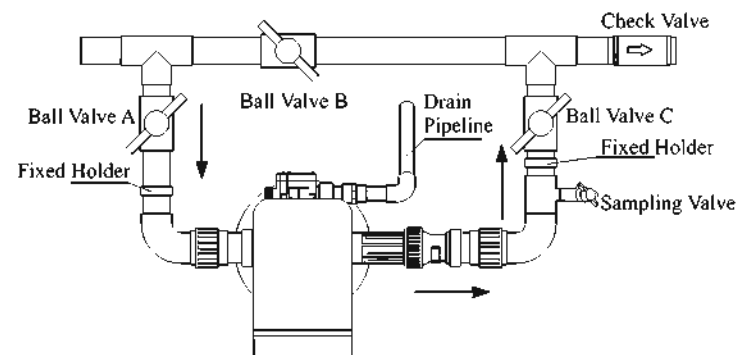

Figure 1-3
④ Pipeline connection
a. As figure 1-3 shows, install ball valve A, B, C, sampling valve, check valve in inlet, outlet, inlet pipeline and outlet pipeline.
As figure 1-3 shows, glue the drain outlet with UPVC drain pipeline, put drain outlet pipe to sewer as showed in the Figure 1-4.